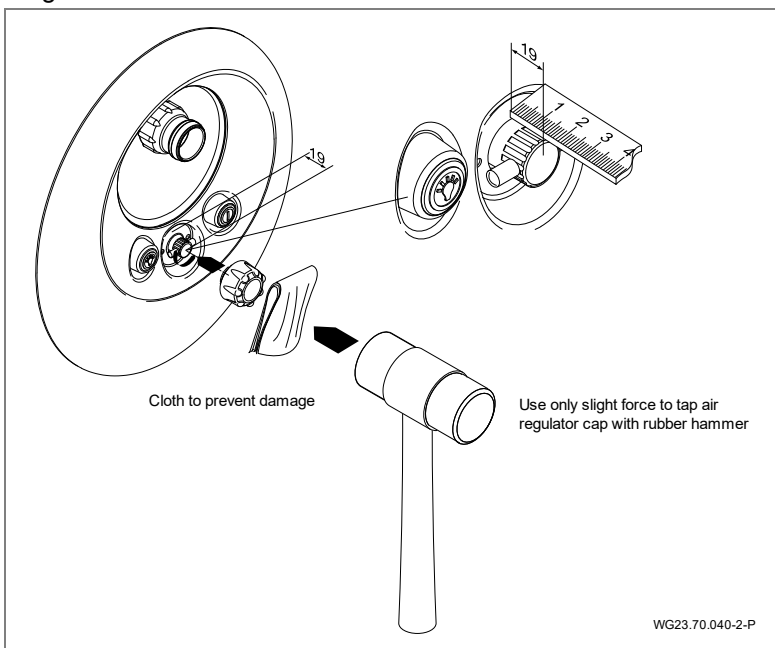

Fig. 21
11. Secure the cover for the air regulator. (Fig. 21)